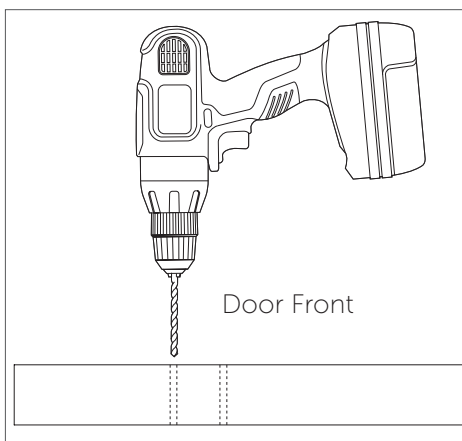

Figure 2
6. Drill two pilot holes all the way through the door for each hanger using a drill with an 1/8" drill bit. (Figure 2).